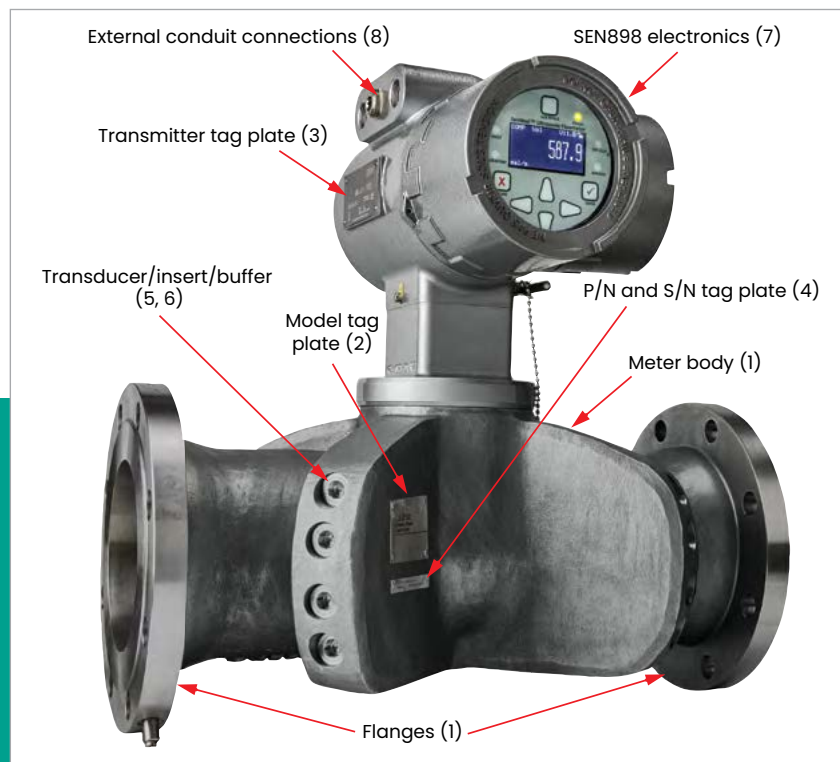

Figure 1: Typical **Sentinel LCT8** assembly
Figure 1 on page 3 shows a **Sentinel LCT8** system, with items 1–8 as described in *Table 1* below.